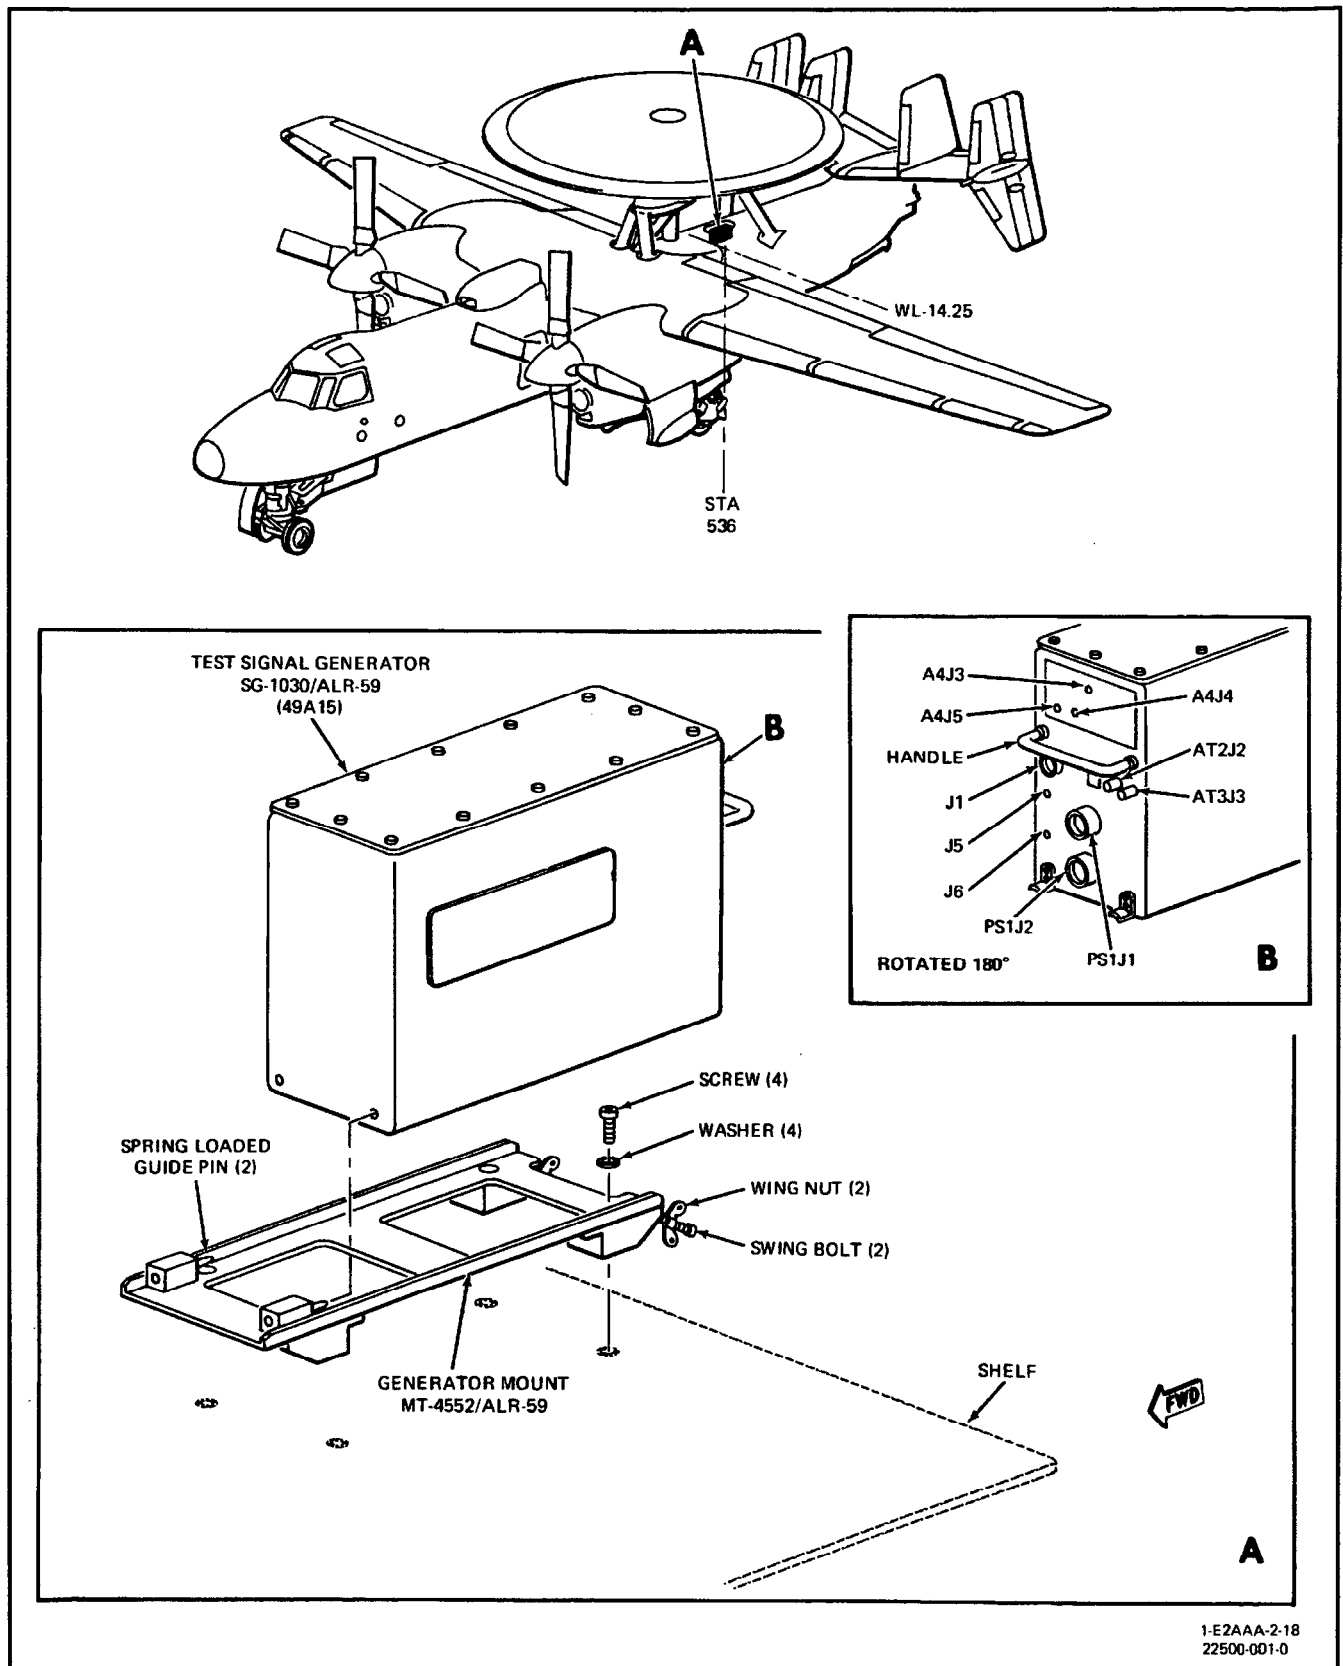

Figure 1. Removal and Installation of Test Signal Generator SG-1030/ALR-59 and Generator Mount MT-4552/ALR-59
**7. REMOVAL. (Figure 1.)**
**8. INSTALLATION. (Figure 1.)**